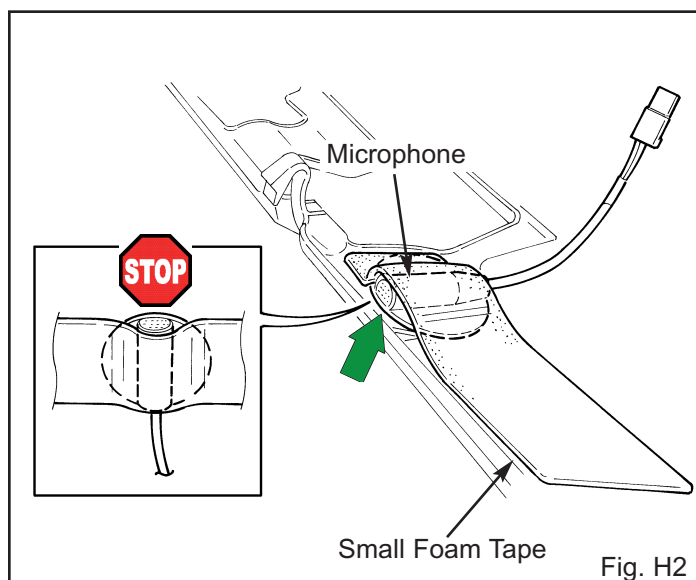

Fig. H2
3. Secure the microphone with one small strip of foam tape. (Fig. H2)